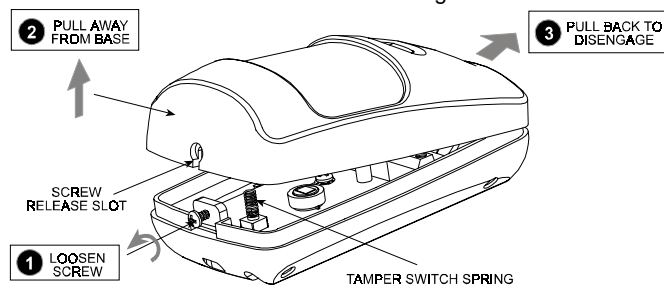

Figure 3. Cover Removal
A. Remove the front cover as shown in Figure 3.